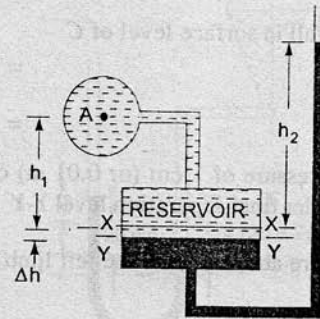

Fig. 2.15 Vertical single column manometer.
2.6.3 Single Column Manometer. Single column manometer is a modified form of a U-tube manometer in which a reservoir, having a large cross-sectional area (about 100 times) as compared to the area of the tube is connected to one of the limbs (say left limb) of the manometer as shown in Fig. 2.15. Due to large cross-sectional area of the reservoir, for any variation in pressure, the change in the liquid level in the reservoir will be very small which may be neglected and hence the pressure is given by the height of liquid in the other limb. The other limb may be vertical or inclined. Thus there are two types of single column manometer as :
Fig. 2.15 shows the vertical single column manometer. Let X-X be the datum line in the reservoir and in the right limb of the manometer, when it is not connected to the pipe. When the manometer is
Now consider the datum line Y-Y as shown in Fig. 2.15. Then pressure in the right limb above Y-Y.